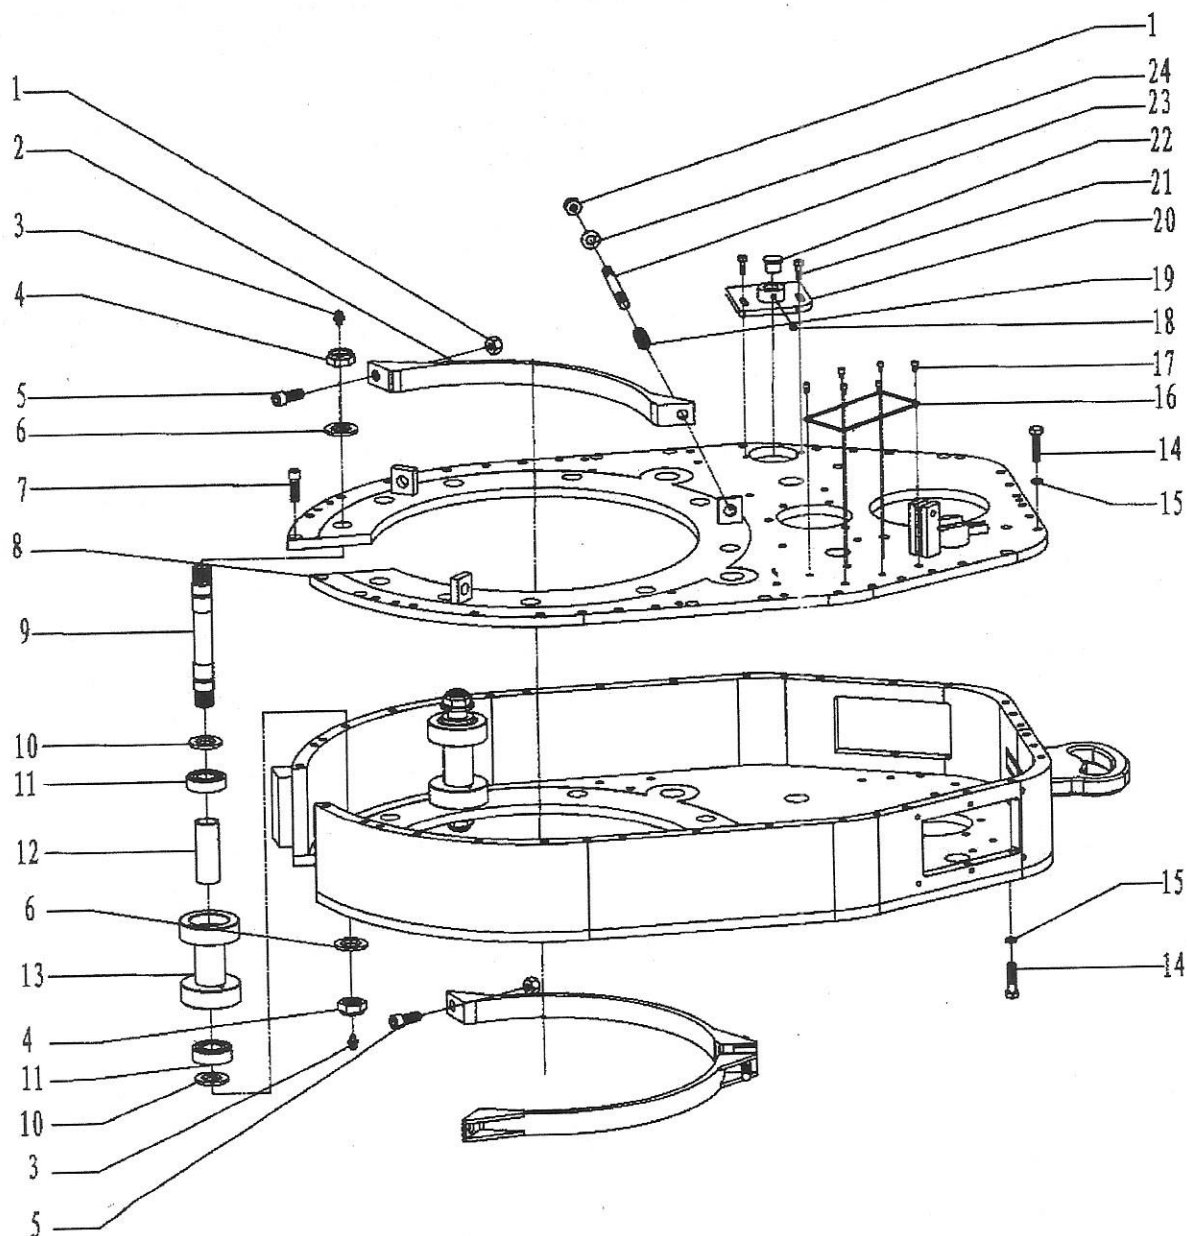

Fig.7
4. Shell and accessories I (Fig 7, Table 4)